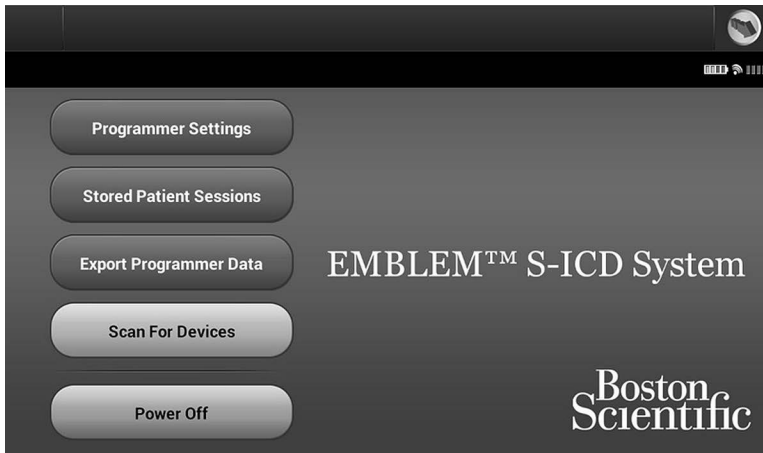
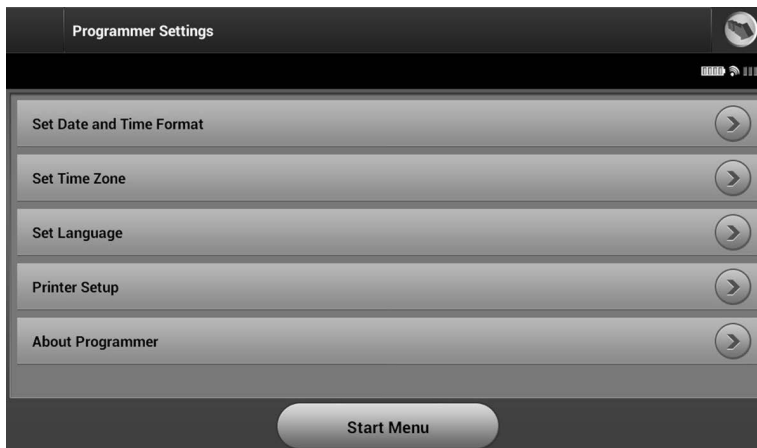

Figure 2: Programmer start-up screen
Figure 3: Programmer Settings screen
1. Select the Programmer Settings button on the Programmer start-up screen (Figure 2) to display the Programmer Settings screen (Figure 3 on page 17).
1. Select Set Date and Time Format on the Programmer Settings screen (Figure 3). The Date and Time Settings screen appears.